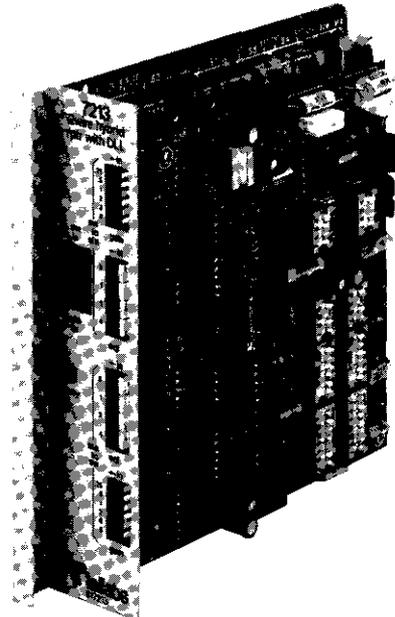

figure 1. 7213 2Wire Hybrid Repeater with DLL
1.01 The 7213 2Wire Hybrid Repeater module with Dial Long Line (figure 1) combines the functions of two separate modules that are normally used together: a dial long line (DLL) and a 2wire voice-frequency hybrid repeater. The DLL portion of the 7213 is designed for either loop-start or ground-start operation; it regenerates signaling and supervision to increase the range of a loop-start CO or PBX line circuit, or a ground-start PBX-to-CO trunk. The 2wire-hybrid-repeater portion of the 7213 provides both bidirectional gain and bidirectional active slope-type amplitude equalization. Two integral precision balance networks (PBN's) ensure optimum hybrid balance with a variety of facilities and terminal equipment.